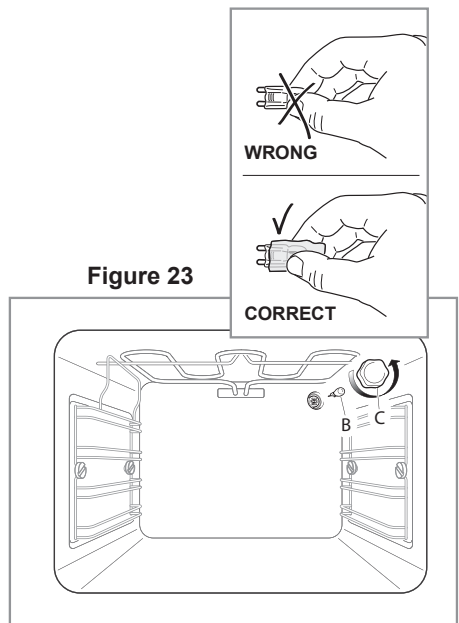

Figure 23
- Remove the protective cover “C” (fig. 23).